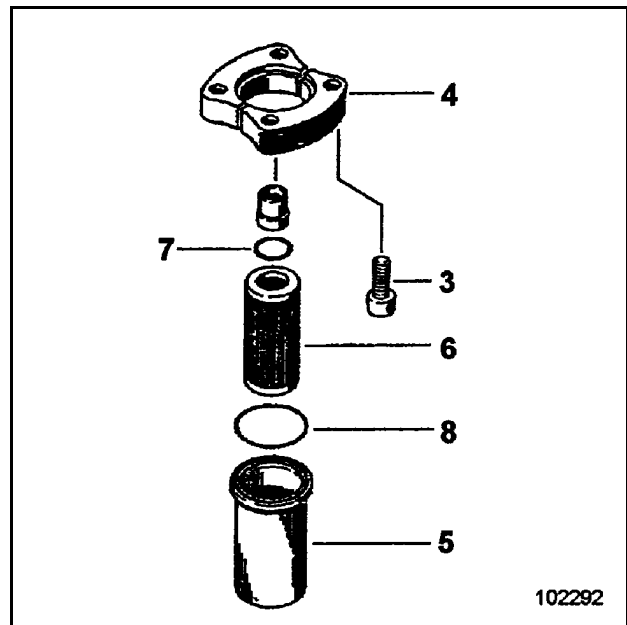

Fig. 3-96:
- Install new filter element (6, Fig. 3-96:) and reassemble with a new, lightly oiled sealing ring (7).